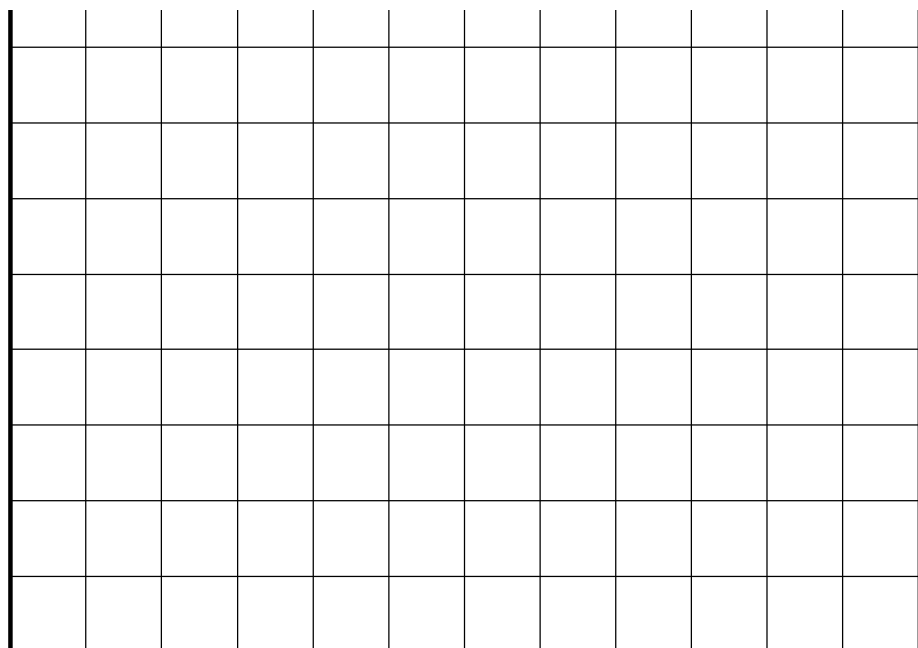

Fig. 16.3.6: Resonance curve, parallel oscillating circuit
- Draw the resonance curve $Z = f(f)$ in the chart (Fig. 16.3.6) for this parallel oscillating circuit.